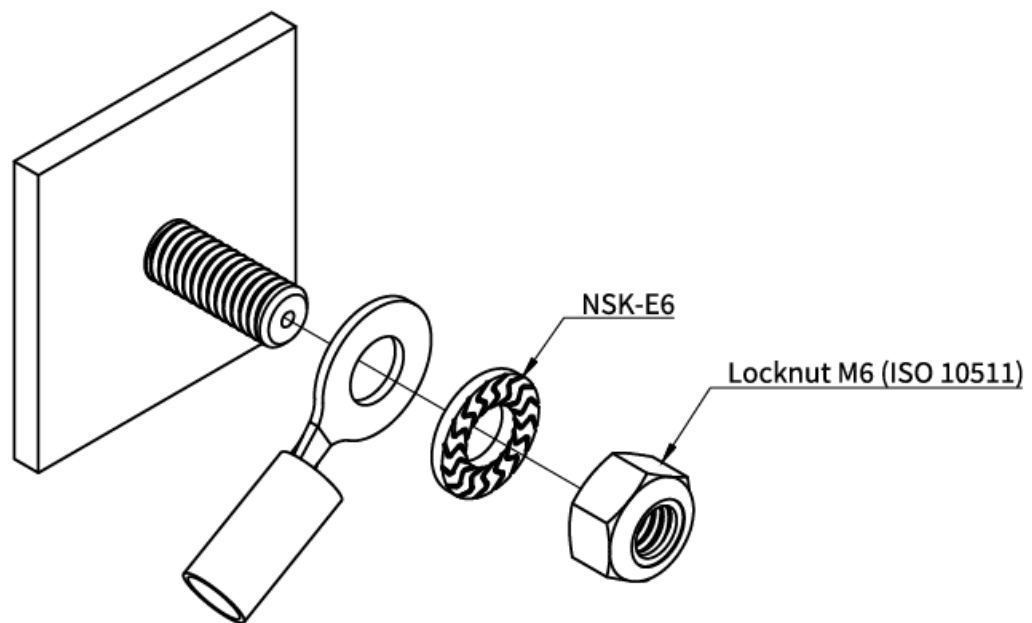

Figure 4 **Earth Cable Mounting on Earth Stud**
2. Mount the earth cable as shown in Figure 4.